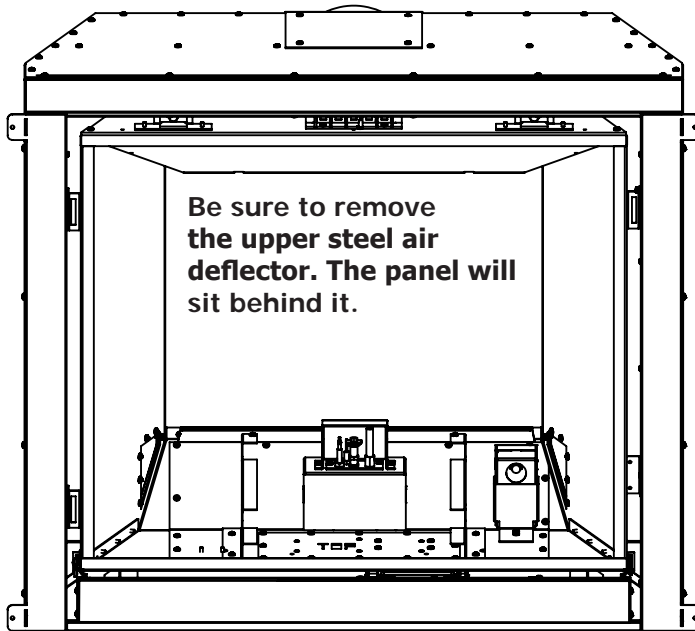

Figure 34. Firebox liner preparation
Remove the door, the log set (if installed), log grate, burner tube, and the upper and lower air deflectors. Removal of these parts will be found in the MAINTENANCE AND SERVICE section of this manual. Once all required components are removed your appliance should resemble Figure 34.
**Figure 34:** This is how the firebox looks with only the burner, air diverters, and log grate in place. The log grate can be easily removed by simply lifting up off the stands.